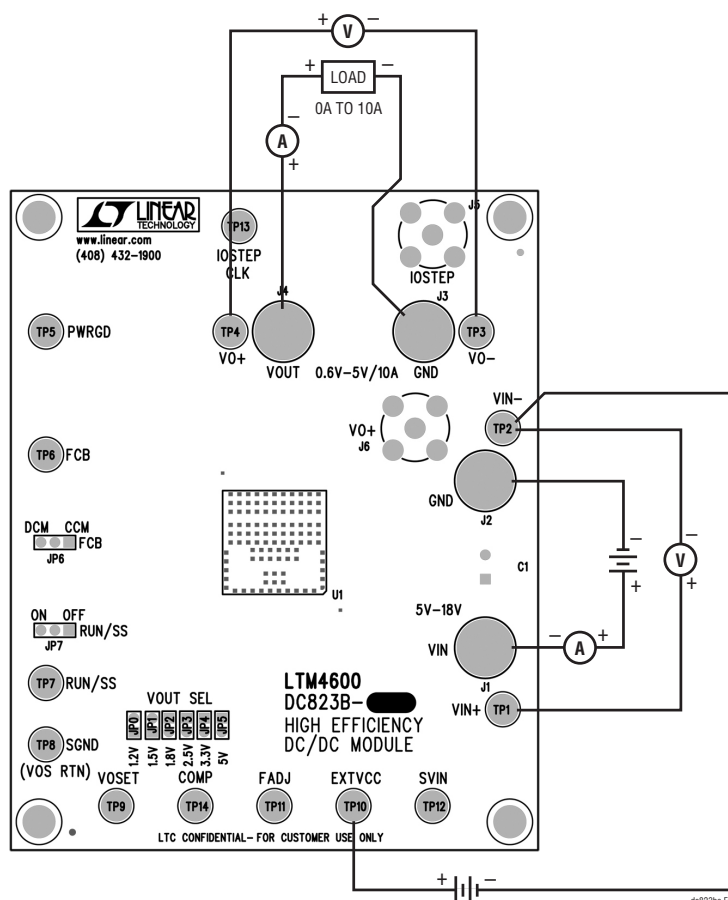

Figure 1. Test Set-Up of DC823B-B (EXTVCC V_{BIAS} Supply is Optional)
Demonstration circuit DC823B-B is easy to set up to evaluate the performance of the LTM4600HVEV. Refer to Figure 1 for proper measurement equipment set-up and follow the procedure below:
2. With power off, connect the input power supply, load, optional 5V bias supply and meters as shown in Figure 1. Preset the load to 0A and V_{IN} supply to be less than 28V. The optional 5V bias supply applied to the EXTVCC pin must be off while the main V_{IN} is turned off.